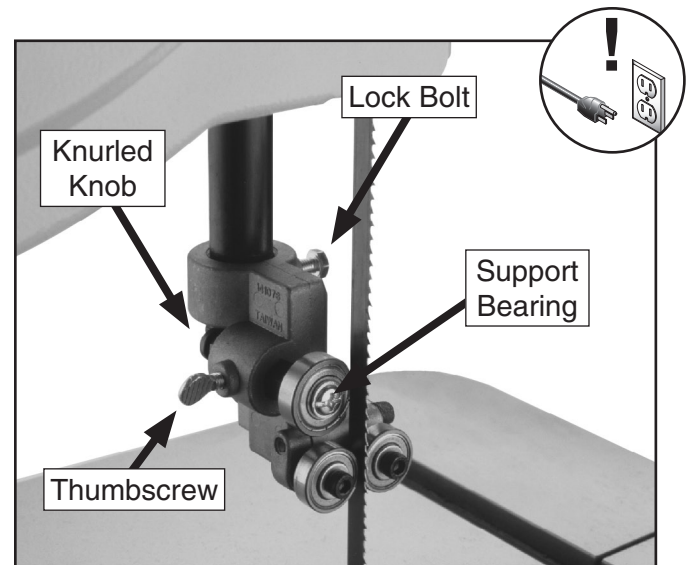

Figure 18. Support bearing controls.
3. Familiarize yourself with the support bearing controls shown in **Figure 18**.
4. Loosen the lock bolt shown in **Figure 18**.